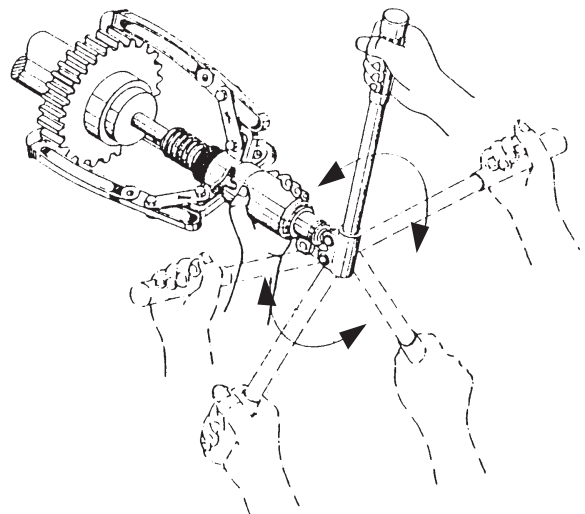

Figure 4
- The handle assembly rotates a full 360° to allow the best handle location for the job. See Figure 4.